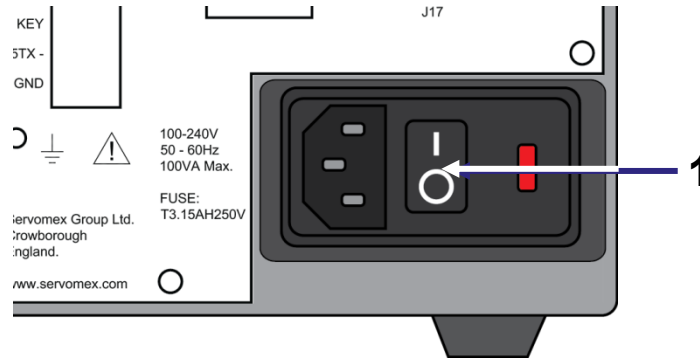

Figure 5-7: On/off switch on the rear of the analyser
2. Press I on the On/Off switch on the rear of the analyser (1 in Figure 5-7).